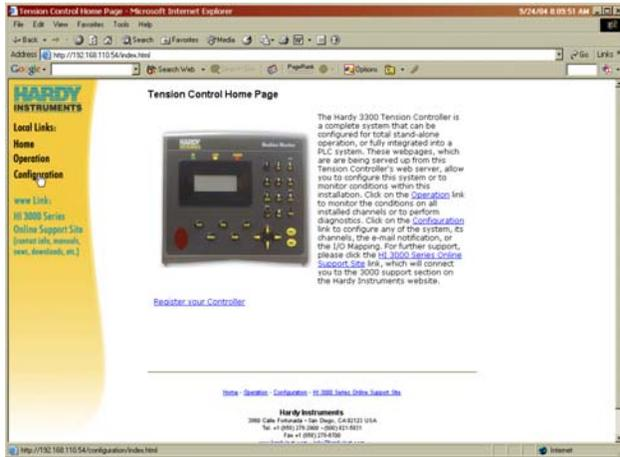
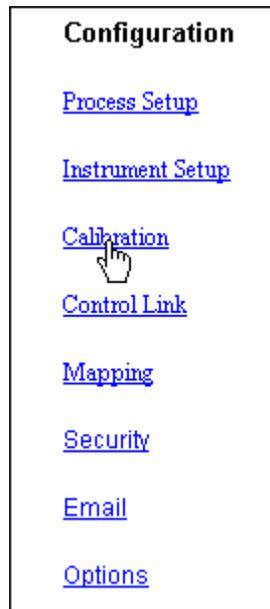

FIG. 2-42 CONFIGURATION MENU/SELECTING SETUP
FIG. 2-43 CONFIGURATION PAGE
- Step 1. On the Tension Controller Home Page Click on Configuration. (See Fig. 2-42) The Configuration page appears. (See Fig. 2-43)